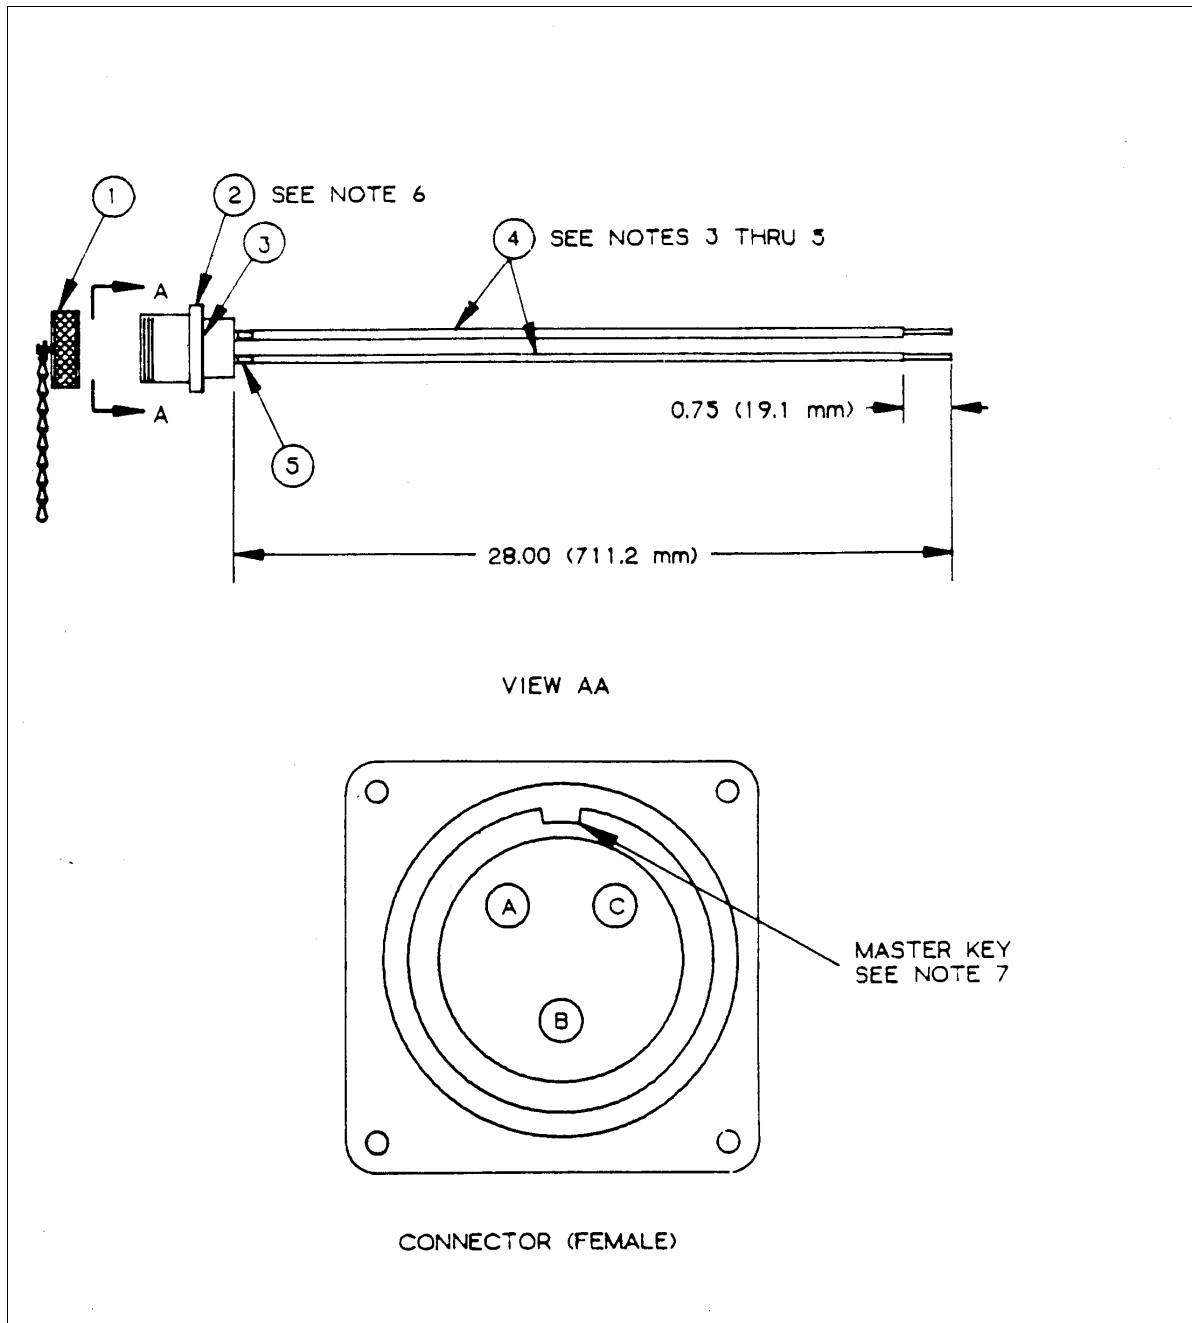

Figure F-14. M100, 20-Amp, Output Connector, (J7).
F-14 M100, 20-Amp, Output Connector, (J7)**Component Legend for Figure F-14**
- c. Electrical connector (Figure F-14, Item 2) is furnished with the following: